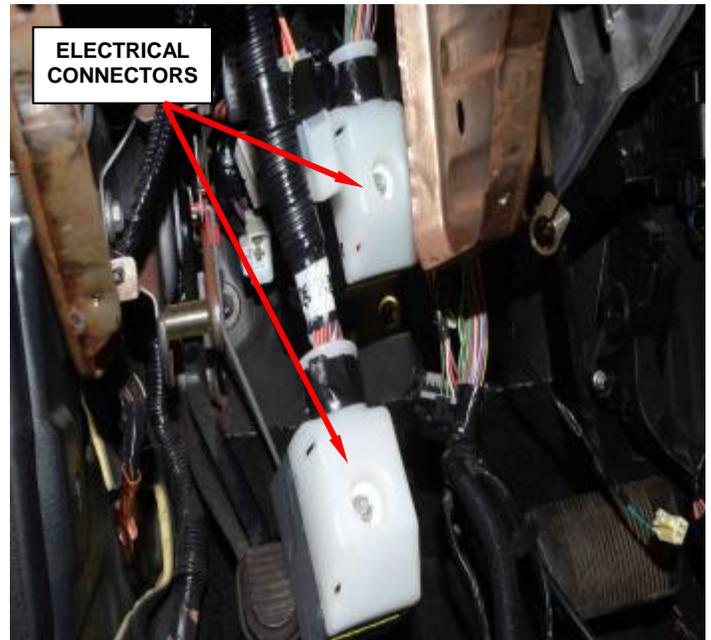

Figure 73 – Electrical Connectors
19. Loosen the screws and disconnect the electrical connectors (Figure 73).